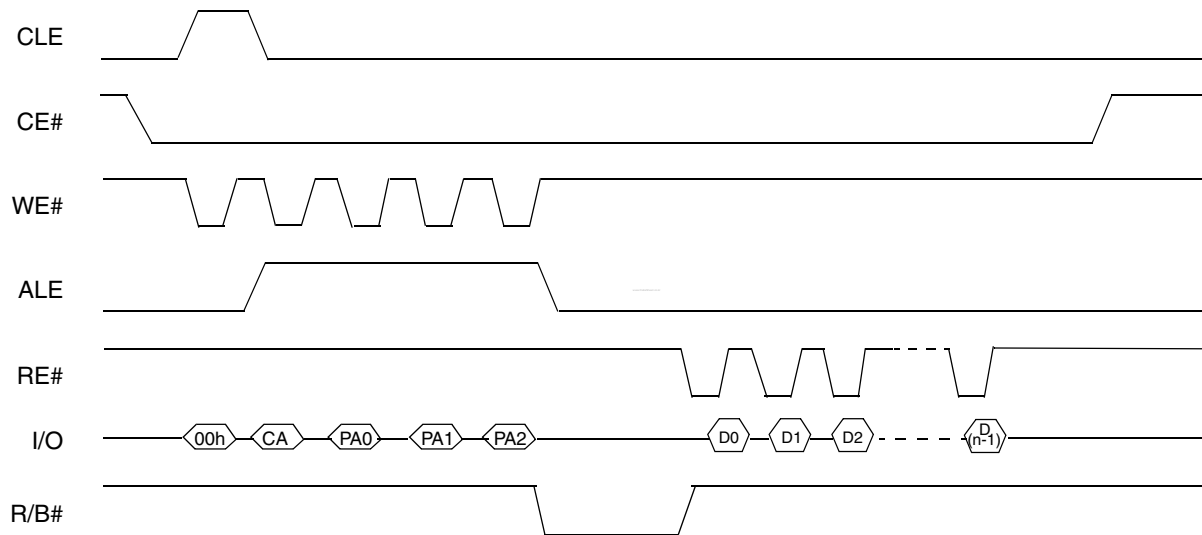

Figure 5-55. Flash Controller NAND Read Cycle
- Figure 5-55 on page 181 shows a basic NAND read cycle.